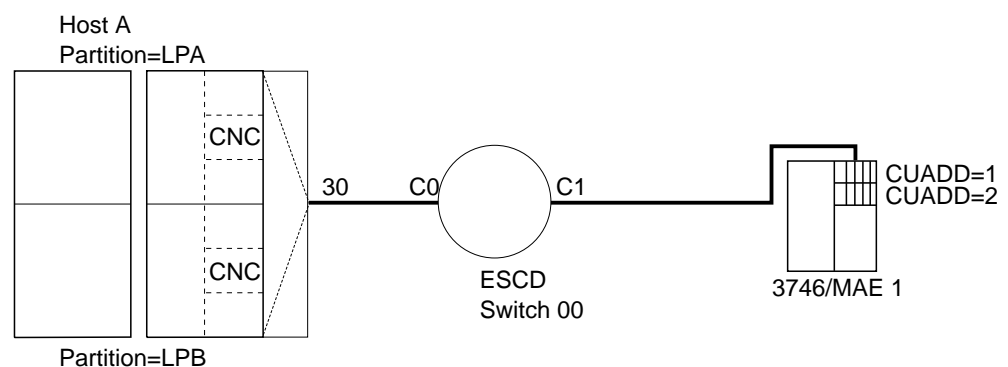

Figure 22-9. EMIF Host Configuration Example
Figure 22-9 shows an example of an ESCON configuration using the ESCON Multiple Image Facility (EMIF). The S/390 host is divided into two logical partitions (LP): LPA and LPB. Both LPA and LPB are connected on path 30 to 3746-MAE1 through switch 00.
The following example definitions match Figure 22-9: